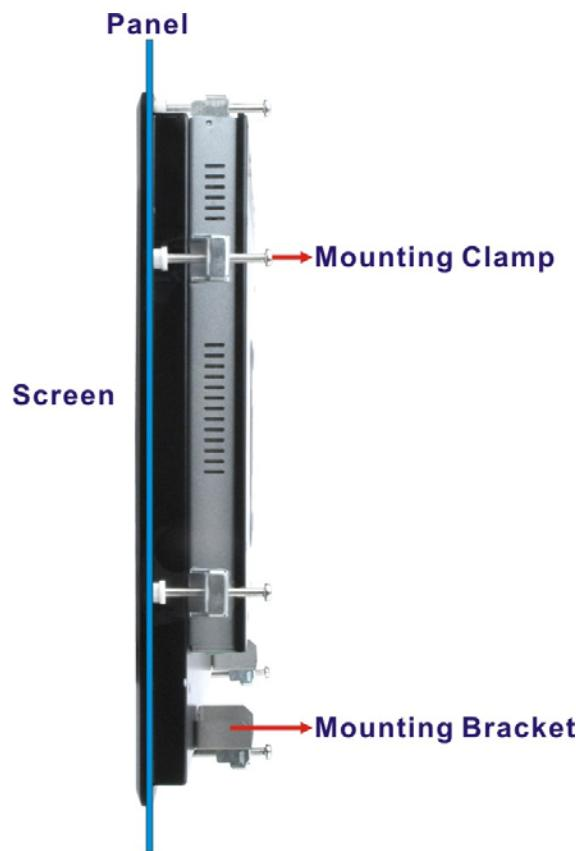

Figure 3-22: Tighten the Mounting Clamp Screws
Step 5: Insert the mounting clamps into the mounting brackets and pre-formed holes along the edges of the PPC-F12B/15B/17B-BTi, behind the aluminum frame (**Figure 3-22**). The required number of mounting clamps may vary by models.
Step 6: Tighten the screws that pass through the mounting clamps until the plastic caps at the front of all the screws are firmly secured to the panel (**Figure 3-22**).